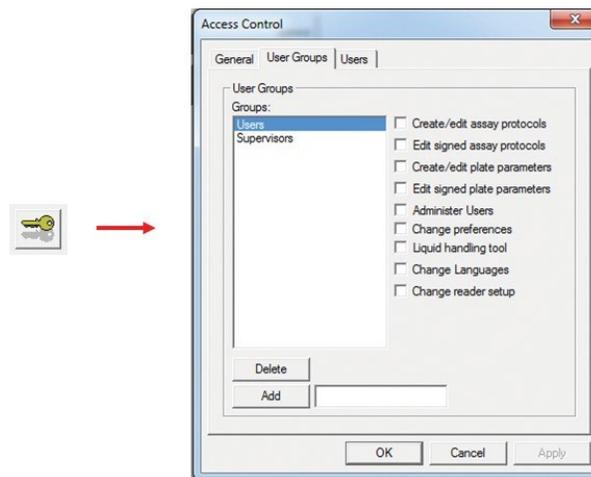

Figure 3. The Access Control button
1. The user can define a user's rights to individuals or groups of users. To carry out this step, click on the 'Tools' tab and select the Access Control button (Figure 3).